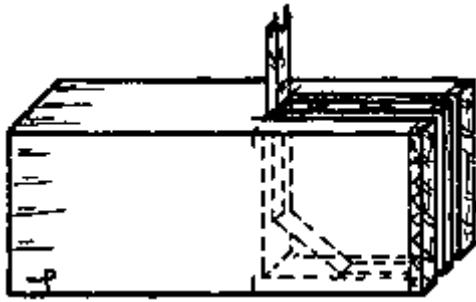

Fig. 10
- Chop out the waste with a mortise chisel, chiselling halfway through from both edges (Figs. 10 & 11).